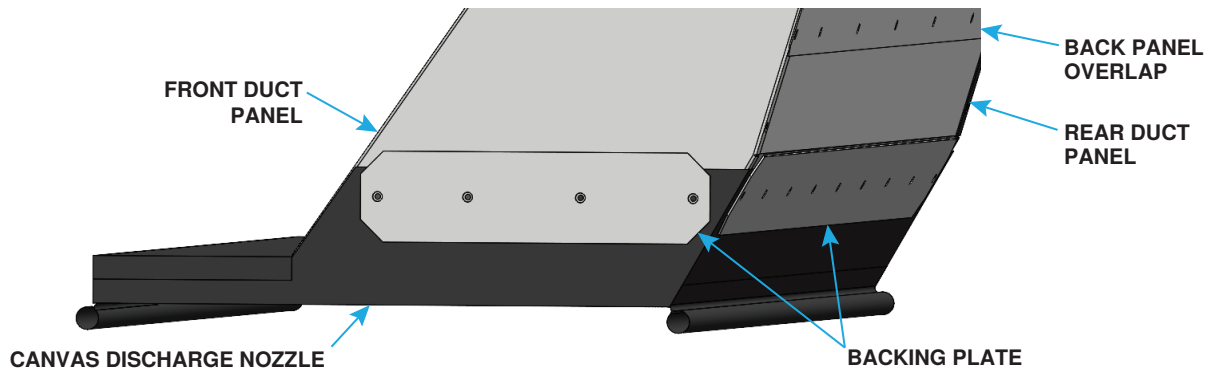

Figure 7. Discharge Duct and Canvas Discharge Nozzle
- Using #10 screws, install discharge duct to bottom of unit as follows (see Figure 7). Ensure that back panel of unit overlaps rear and side duct panels as shown.
- Install and secure canvas discharge nozzle (see Figure 7) to duct using backing plates and #10 screws.